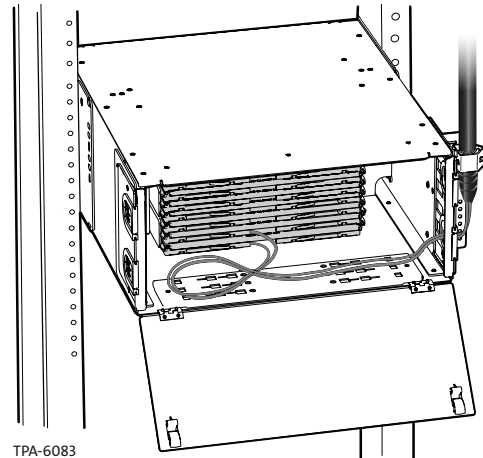

Figure 7
- Step 6:** Once splicing is complete, store furcation leg slack in the bottom of the splice cassettes and slide the cassette into the housing from the front (Figure 7).